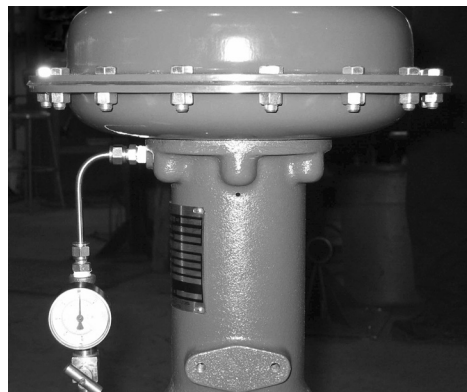
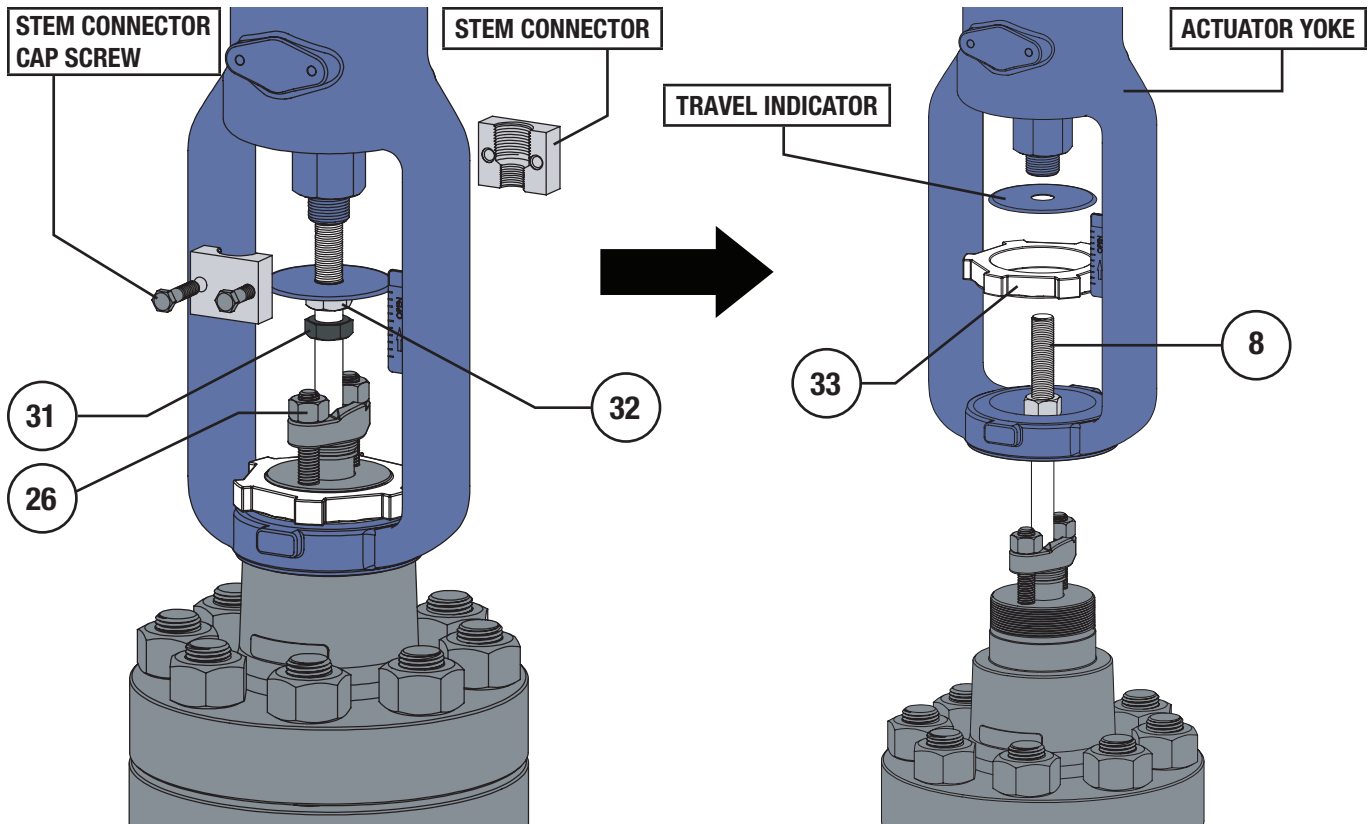

Figure 3 Needle Valve with Gauge Setup
Figure 5 Actuator Removal Steps
- 4 If the actuator is a spring and diaphragm actuator, determine if that actuator is fail open or fail closed. Fail closed actuators will need to be energized to remove downward force from the stem connector (refer to Figure 5). Connect a supply line to the inlet port of the actuator, be sure not to exceed the maximum casing pressure. Refer to Figure 3 for recommended needle valve and gauge setup.
- 5 Remove the stem connector (Refer to Figure 5).